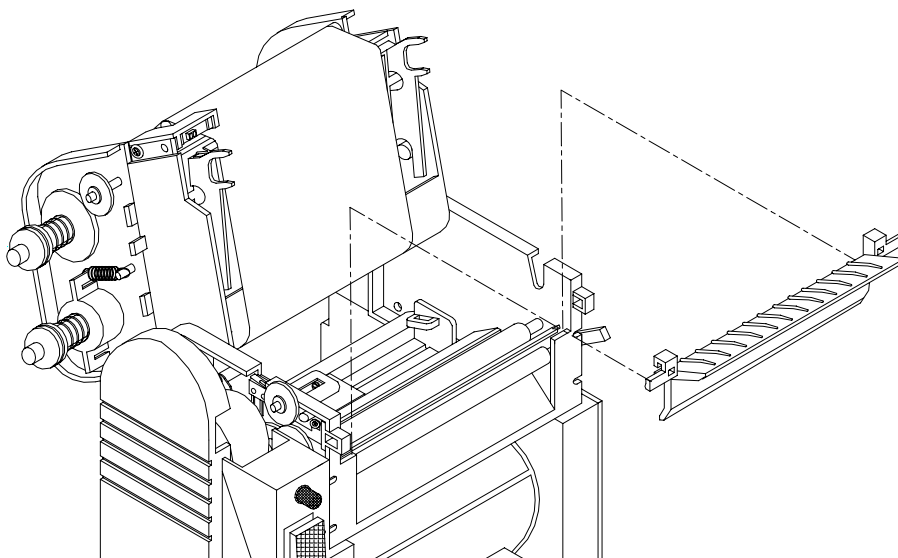

Fig. 1
1. Refer the figure 1 to setup the strip bracket bar to the right position.